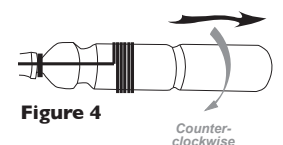

Figure 4
- k) Unscrew the tool from the shaft. (Fig. 4)
- r.1 Rotate the battery counter clockwise and gently pull the battery out and away from the EZcoil. (Fig. 4)